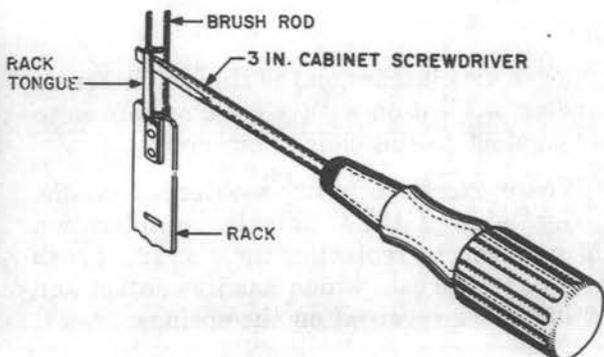

Fig. 12 — Method of Removing Rack From Brush Rod
3.30 Uncouple the brush rod from the rack by inserting the blade of the 3-inch cabinet screwdriver between the rack tongue and brush rod, as shown in Fig. 12, and turn the screwdriver just enough to disengage the tongue from the brush rod slot.